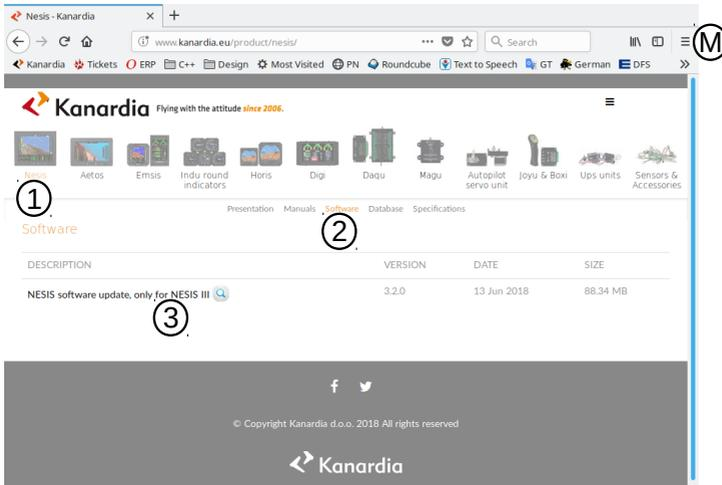

Figure 84: Illustration of the Nesis software download page. Usually only latest update is available.
- ① Open the home page and select *Nesis* icon on the top. This leads to Nesis specific page.
- ② Select *Software* next. This opens a page with Nesis specific software. An example is shown on Figure 84.
- ③ Click on the link to start download process of selected software file. Before downloading the software, a window appears asking for your email address. This is optional. Download will be completed also if address is not given.
1. Click on the \equiv menu symbol. See label (M) on Figure 84.